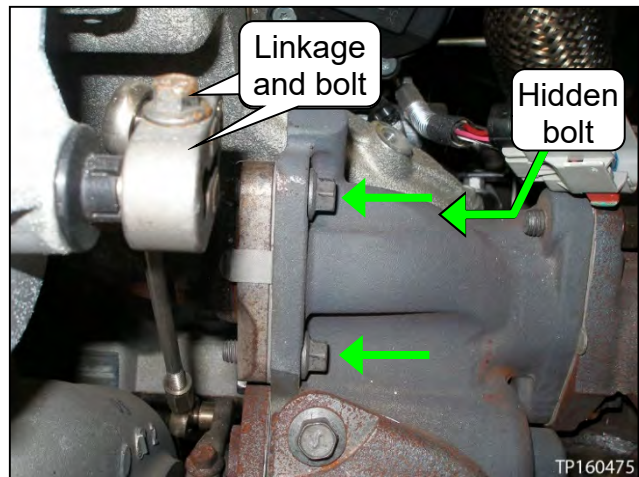
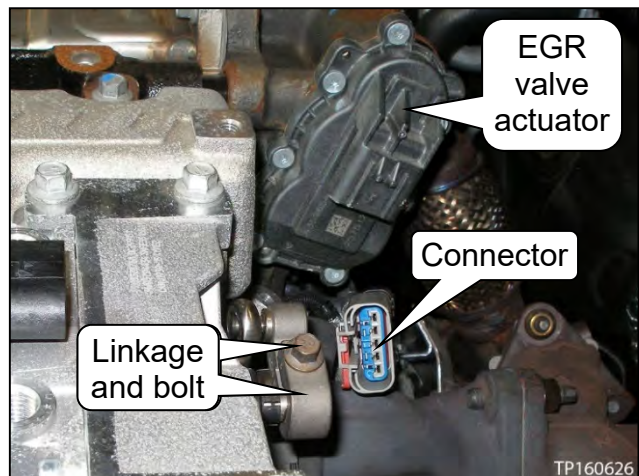

Figure 92
Figure 93
33. Install the three (3) EGR bypass tube bolts (see Figure 92).
34. Mount and secure the rotary turbine control valve upper linkage (see Figure 92 and Figure 93).
35. Connect the EGR valve actuator connector (see Figure 93).